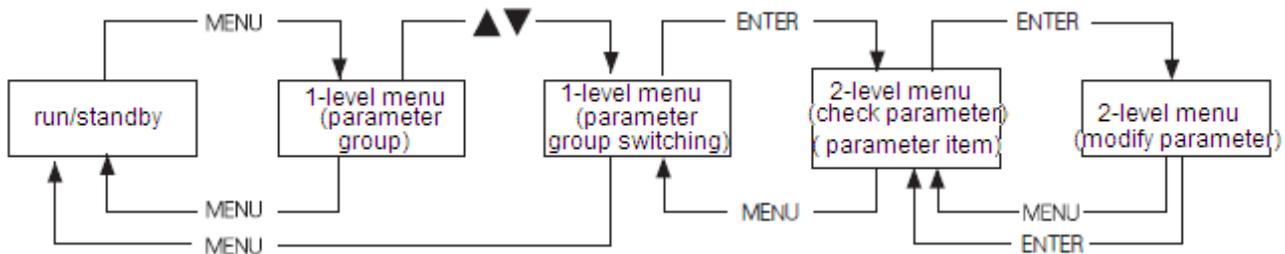

Figure 3-19 2-level menu operation flow chart
The three-level menu: menu item (1-level menu), parameter item (2-level menu) and parameter setting (3-level menu). The operation process is shown in Figure 3-19.